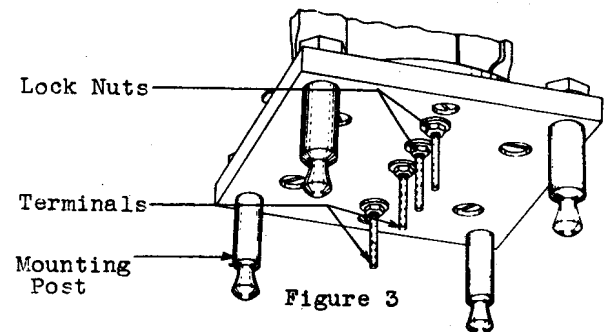

Figure 3
*2.03 Relay Terminals and Nuts Fig. 3 - The relay terminals shall be straight and shall be held tightly with the lock nuts. Gauge by eye and by feel.